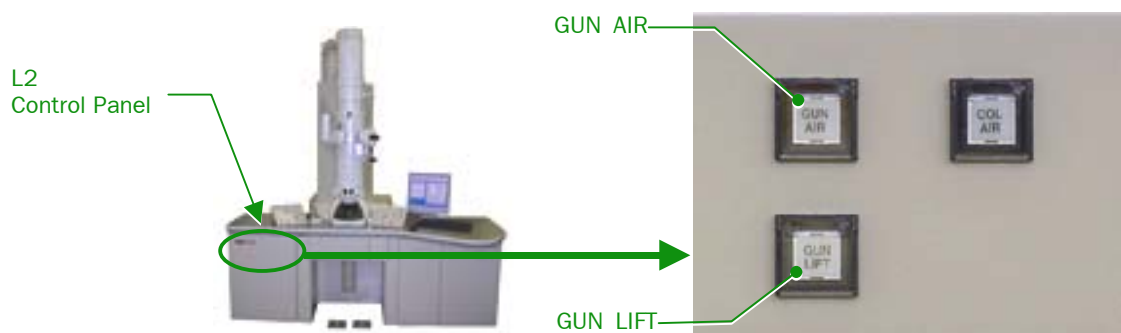

Fig. 6.6 GUN AIR and GUN LIFT switches (L2 Control Panel)
5. Press the GUN AIR switch (L2-⑨) (Fig. 6.6).
7. Wait for 5 minutes, and press the GUN LIFT switch (L2-⑧) (Fig. 6.6).
5. Press the GUN LIFT switch (L2-⑧) to turn off the lift (Fig. 6.6).
6. Press the GUN AIR switch (L2-⑨) to turn off the venting (Fig. 6.6).